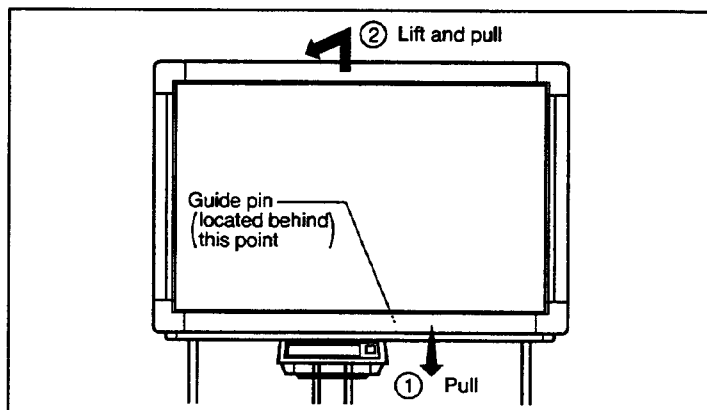

Fig. 5-2
- 2) Pull the bottom of the screen toward you, and lift the screen as shown in Fig. 5-2.